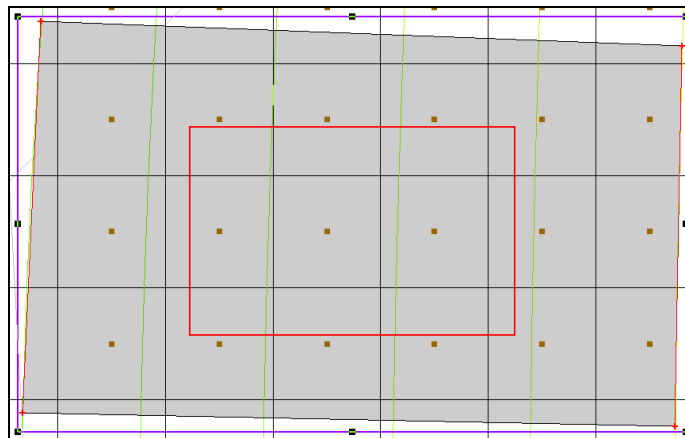

Figure 6 Grid frame encompassing the active coverage
2. Right-click on “ Grid Frame” in the Project Explorer and select *Fit to Active Coverage*. If desired, use the **Grid Frame**  tool to position the grid frame to better match the local grid boundary (Figure 6).